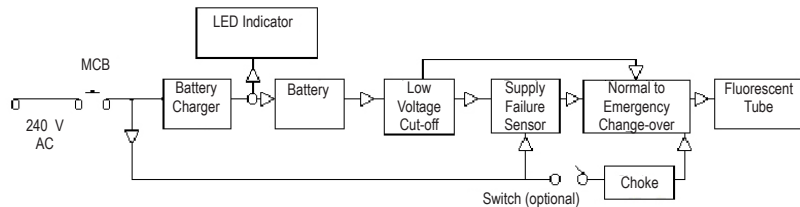

Figure 2: How a Power Pack works
3. Fit the inverter and battery pack using suitably sized screws and nuts. Make sure that the battery pack is mounted away from the ballast or from any other components that may get hot. Figure 2 shows a block diagram of how a Power Pack works.